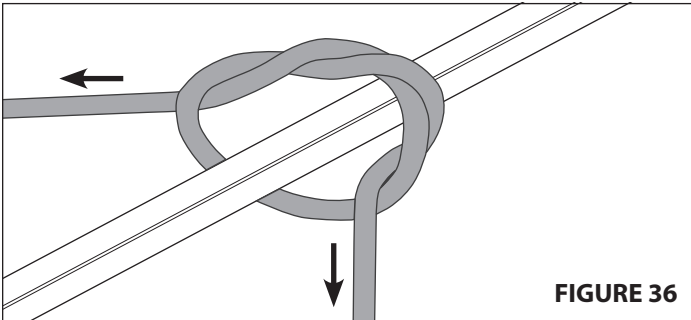

FIGURE 36
14. a. Tie one end of the provided 9' rope to the link welded onto stabilizer bar, just in front of the tree hugger. **Be sure your double knot is secure. SEE FIGURE 36.**
- b. Tie one end of each of the provided 15' ropes to the square tube of tree blade frame, just in front of the tree blades. **Be sure your double knots are secure. SEE FIGURE 36.**